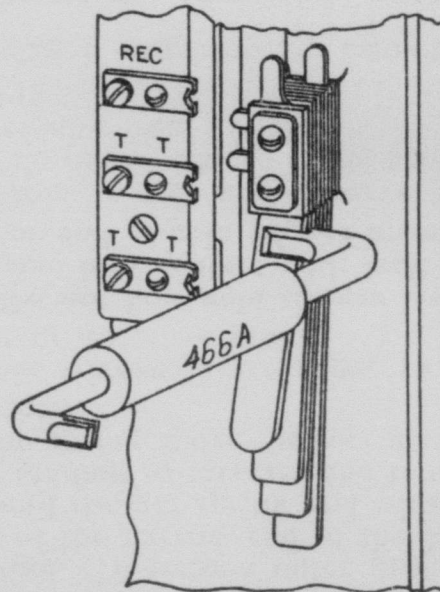

Fig. 23.
- (b) If springs do not have the desired follow adjust with No. 466A tool as shown in Fig. 23.